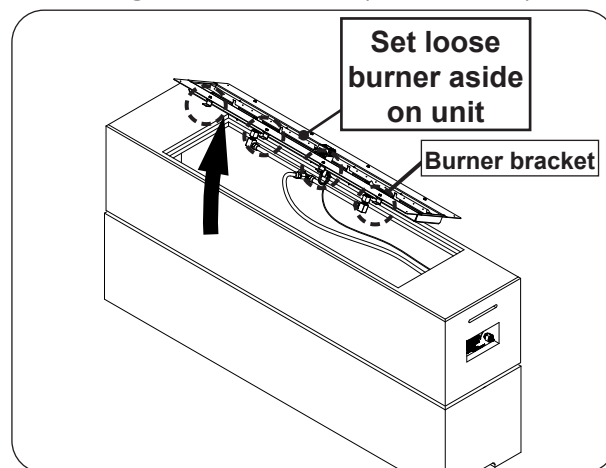

Fig. 23-3 Remove burner assembly
1. Use a $\frac{5}{16}$ " nut driver to partially unfasten the eight screws found on the burner assembly. Then carefully remove the burner and set it off to the side. See Fig. 23-3.